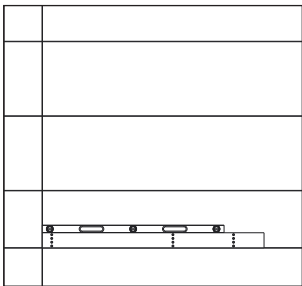

Figure 7: Place Tube
6. Place the marked-up bottom tube on the wall so the bottom horizontal line aligns with the bottom of the tube, the vertical line aligns with its respective edge, and "TL" is in the top-left corner. Refer to **Figure 7**. Use a level (digital is recommended) to fine-tune the tube position, which has a ±1/4" tolerance in all directions.